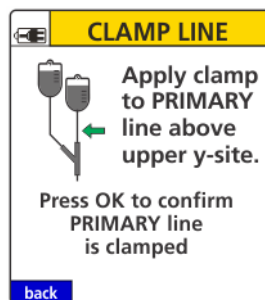
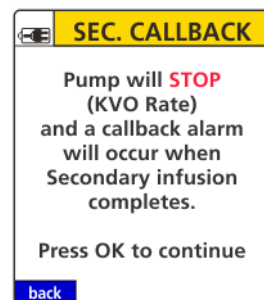

Figure 51. Primary IV Line Instruction Screen.
Figure 52. Primary IV Line Confirmation Screen.
- If the **no** soft key is pressed, apply clamp to primary IV line above upper Y injection site (see Figure 51.), and press **OK** to confirm primary IV line is clamped. See Figure 52.